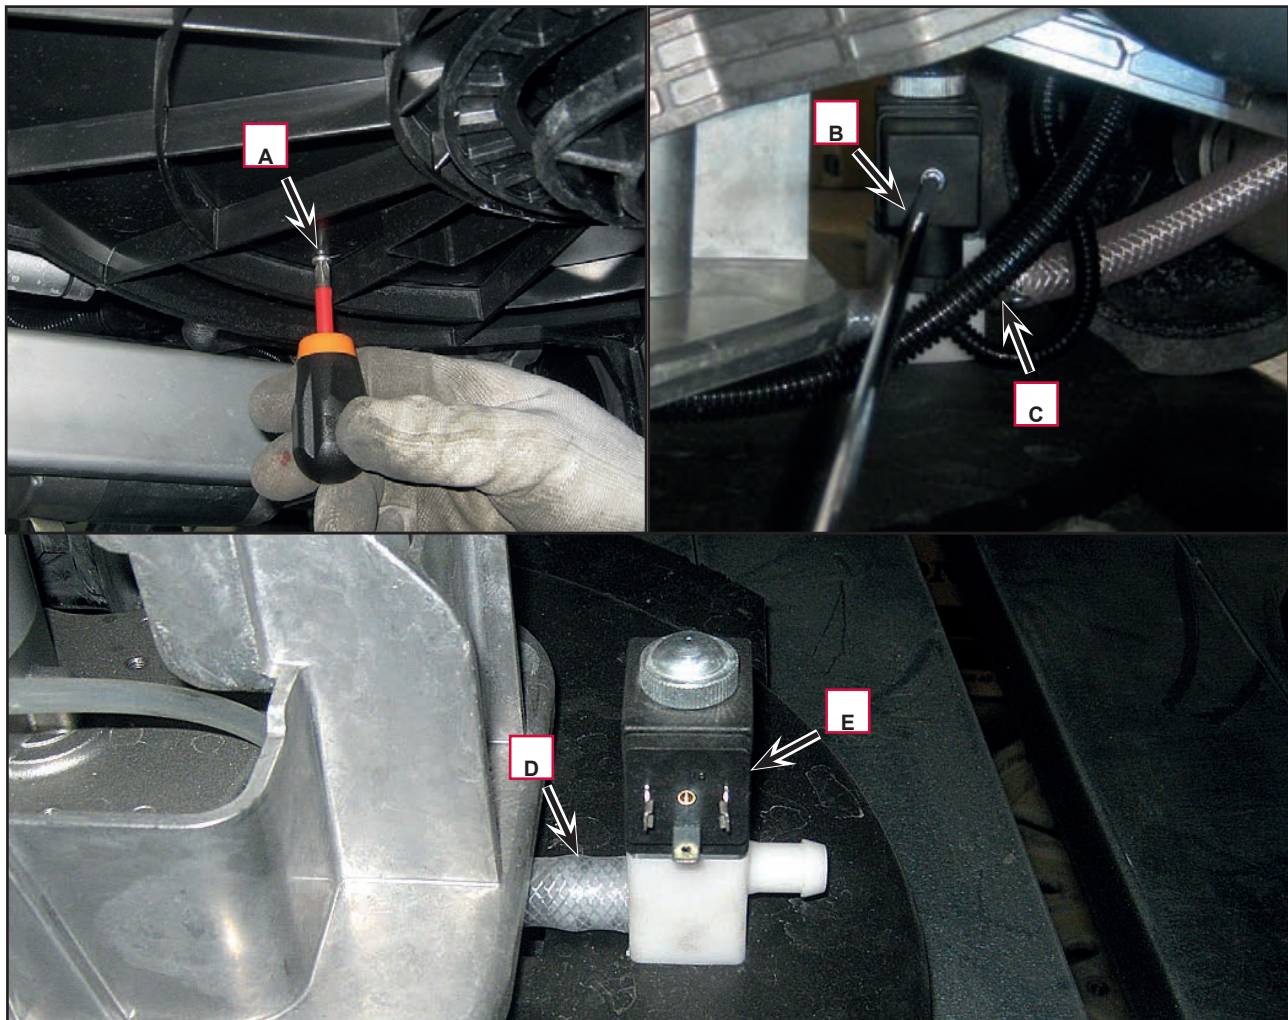

Figure 11
3. Remove the two screws (A) (Figure 11) under the brush deck.